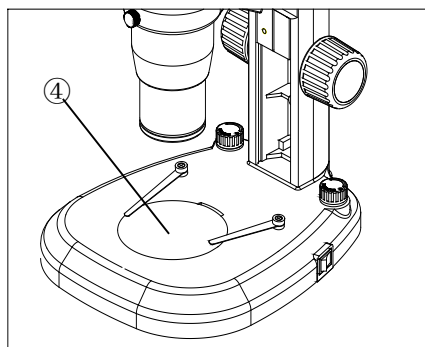

Fig.7
2.2.5. Mounting glass stage plate (Fig. 7)